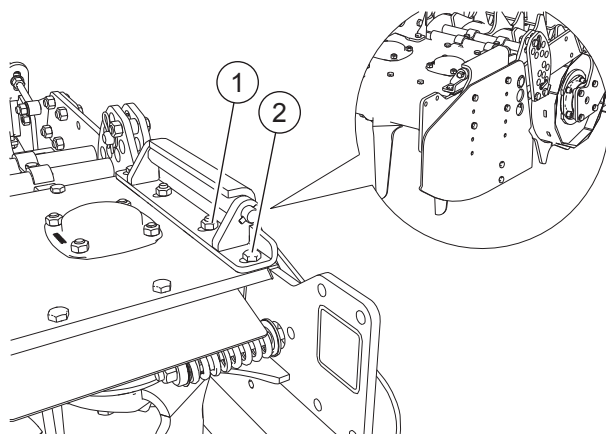

FIG. 17
- Loosen the bolts (2, “Fig. 17”). Loosen the nuts (1). Remove the unit.